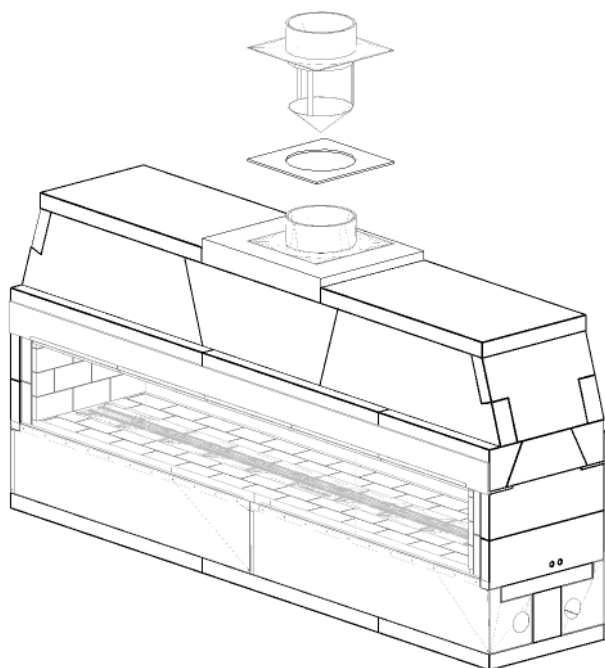
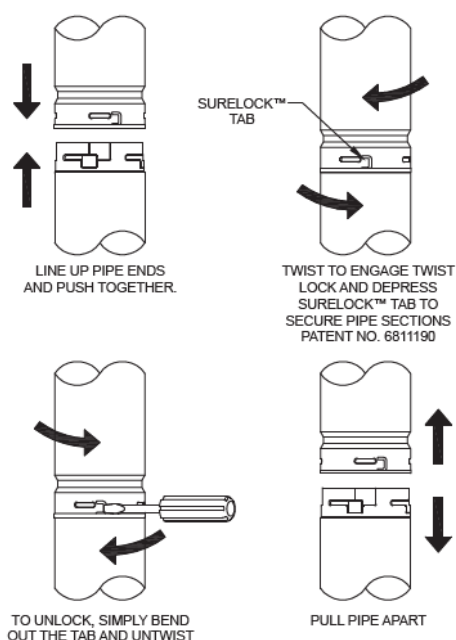

FIGURE 28
FIGURE 29
- 2) Center the Isowool blanket over Isokern Top Plate’s outlet and trace the outlet’s outline with a pen or marker. Cut a hole in the blanket along this outline to match the hole in the Isokern top plate. Center the cut Isowool blanket over the Isokern Top Plate flue opening, then center Anchor Plate over the Isowool blanket (**Figure 28**).
- 3) Secure the Anchor Plate with four (4) masonry anchors.
- 4) Starting at the anchor plate, attach the first section of B-Vent Pipe. A minimum of 12” of straight pipe will be required before any offset. The B-Vent sections and components use the Metal-Fab positive twist-lock for interconnections. Align the ends of the vent, push together then twist section to lock in place (**Figure 29**).